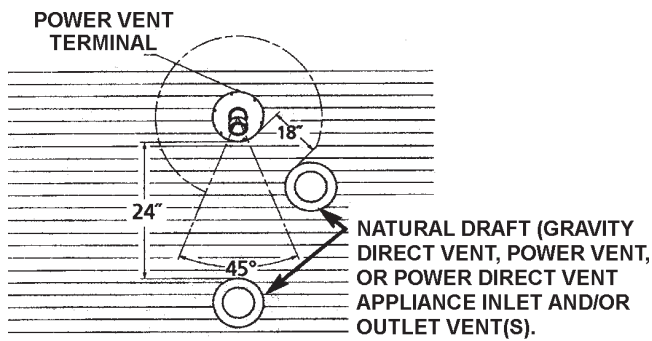

FIGURE 13.
- 18" minimum from other natural draft (gravity) direct vent, power vent or power direct vent appliance inlet and/or outlet vent(s) when directly above or 135° to either side of the center line, see Figure 13.
- 24" minimum from any appliance inlet and/or outlet vents when directly below or 45° to either side of center line, see Figure 13.